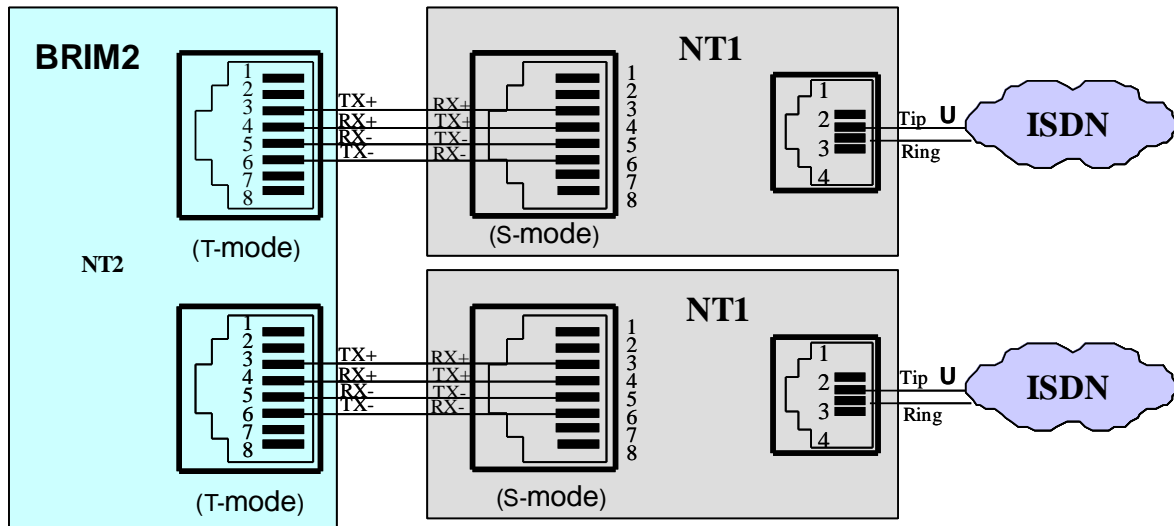

Figure 4.5.12-1 BRIM2 BRI Line Connector Configuration
On the rear are two (2) RJ-45 connectors terminated to the BRI Line interface circuits. These connectors should be wired to the telephone company termination point (‘T’ Mode). The connector pin assignments for the RJ-45 type jacks on the BRIM2 are shown in Figure 4.5.12-1.